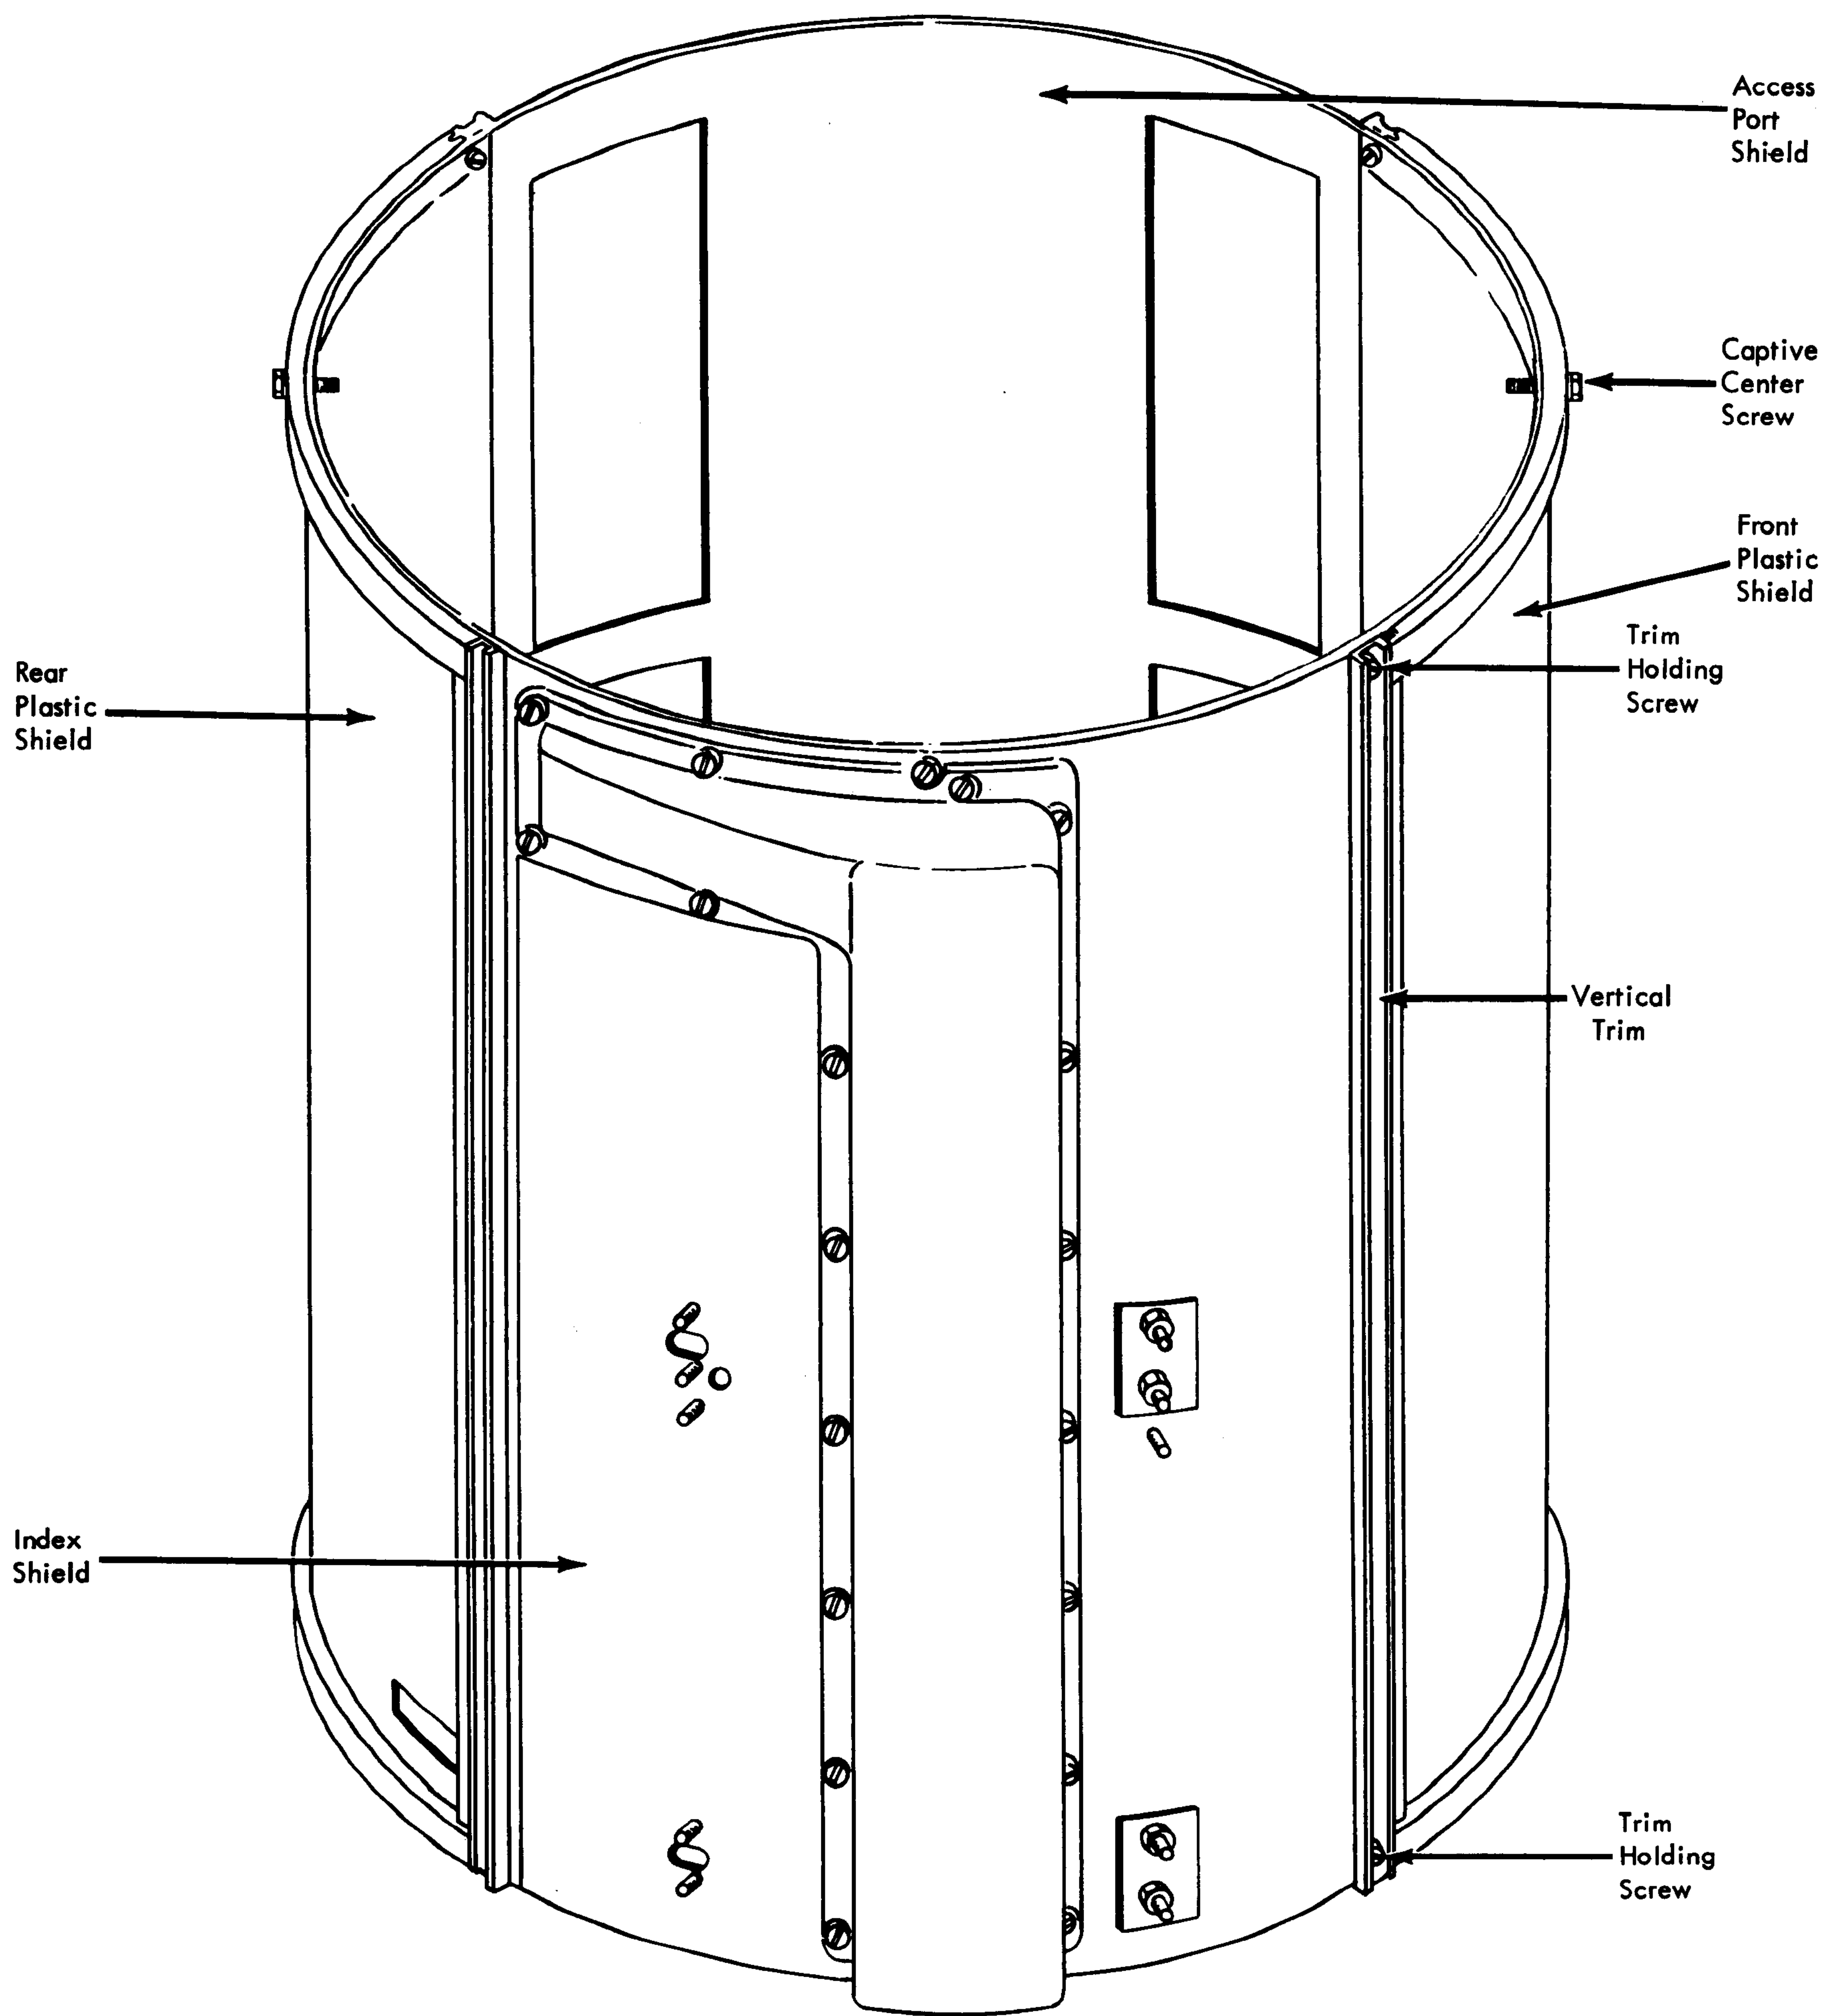

Figure 2-1. Disk Array Shields
Plastic Shields - Front and Rear (Figure 2-1)
4. Remove vertical trim (Figure 2-1).
Replacement (Figure 2-1)
Index Shield (Figure 2-1)
Access Port Shield (Figure 2-1)